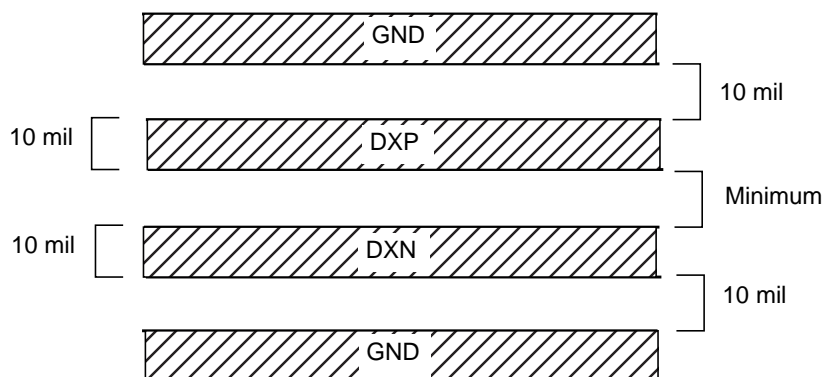

Figure 45. DXP/DXN PC Traces
4. Connect guard traces to GND on either side of the DXP DXN traces (Figure 45). With guard traces in place, routing near high-voltage traces is not a problem.
7. Use wide traces. Narrow ones are more inductive and tend to pick up radiated noise. The 10 mil widths and spacings recommended in Figure 45 are not absolutely necessary (as they offer only a minor improvement in leakage and noise), but try to use them where practical.